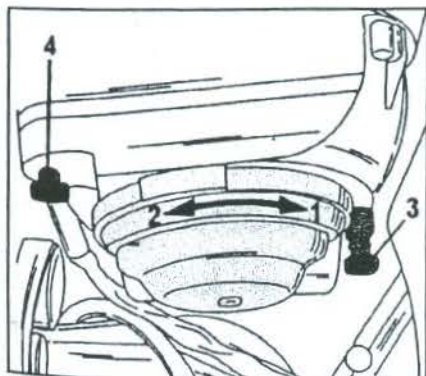

Fig. 8.5 – View of a headlamp unit from the rear. Remove the plastic cover in direction (1) and refit it in direction (2).
- Open the bonnet and from the rear of the headlight unit remove the plastic cover by turning it into the direction "2" of the arrow in Fig. 8.5.
If the headlamps are adjusted from the inside you will find the two knurled nuts on opposite sides of the headlamp, as can be seen in Fig. 8.5. Use adjusting screw (3) to move the headlamp beam up or down, use adjusting screw (4) to adjust the beam from left to right. Refer to Fig. 8.8 for the location of the adjusting screws when headlamps are adjusted from the outside.